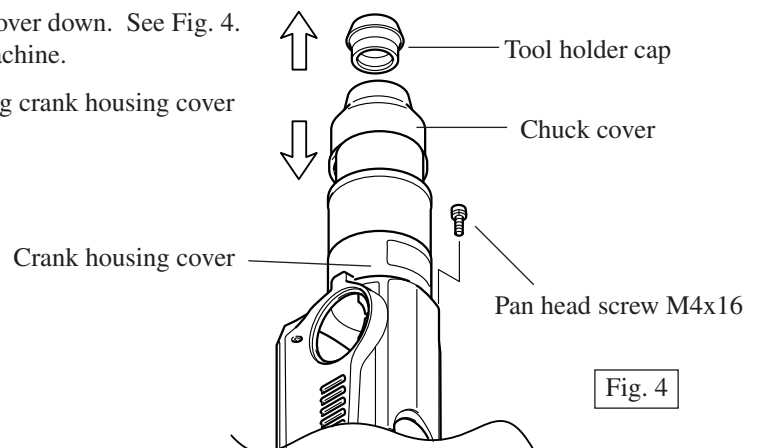
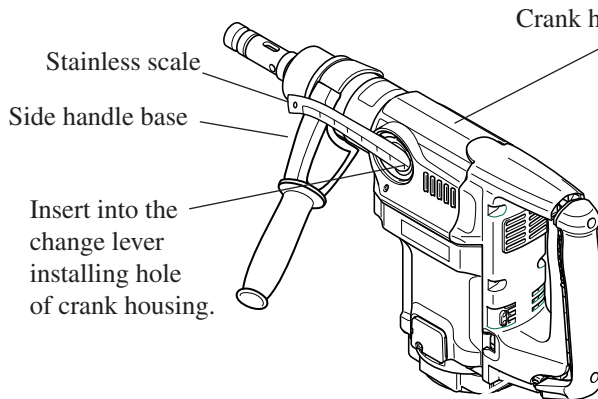
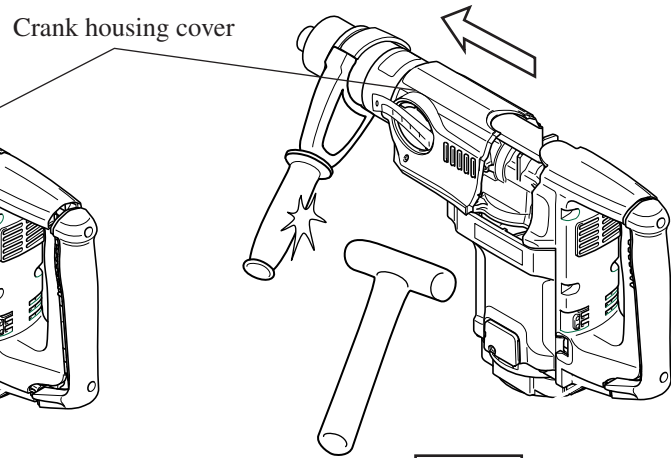

Fig. 4
Fig. 5
Fig. 5A
- 1) Remove tool holder cap while pulling chuck cover down. See Fig. 4.
- 2) Take off pan head screw M4x16 which is fixing crank housing cover on crank housing. See Fig. 4.
- 3) Insert a stainless scale into the change lever assembling hole of crank housing, and put the another end of the same scale on side handle base as illustrated in Fig. 5.
- 4) Strike side grip with plastic hammer. So crank housing cover can be separated together with side grip from crank housing as illustrated in Fig. 5A.
1) Disassemble tool holder cap, chuck cover and crank housing cover as illustrated in Fig.4, Fig. 5 and Fig. 5A at page 6 and 7.